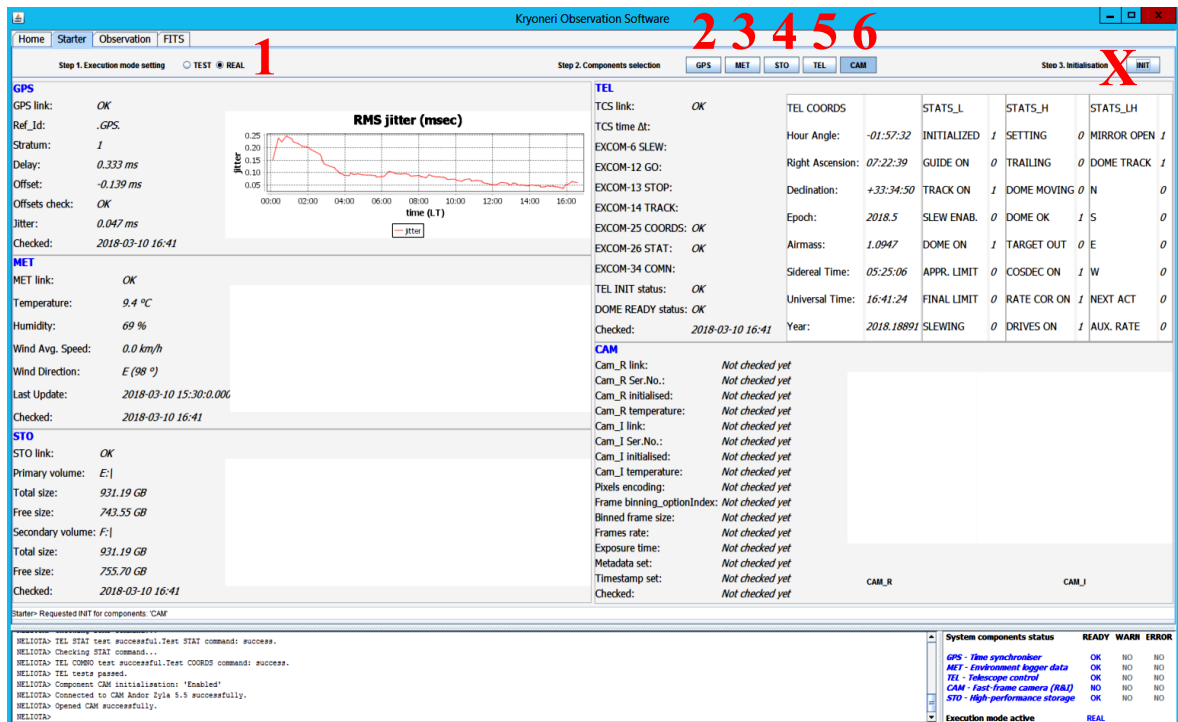

Fig. 6.6. The “Starter” menu where all the connections with the subsystems must be established.
2. Select “Real” (Fig. 6.6 No 1)